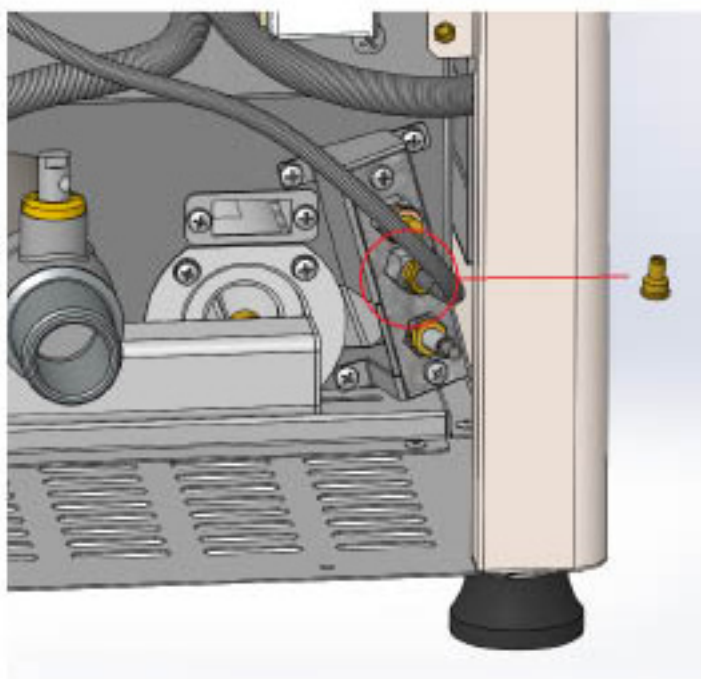

Fig. 2
- 2) With a size 10 wrench, unscrew the supply hose of the pilot burner (Fig.2)